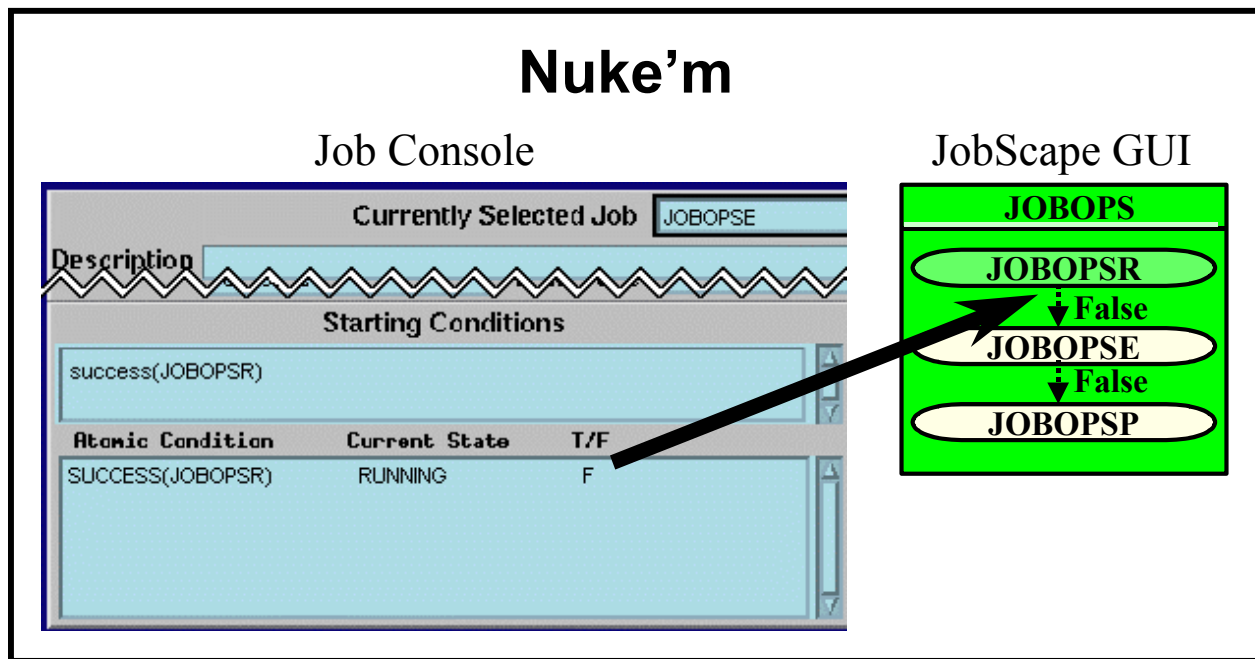

Figure 66. Atomic Conditions and Upstream Dependencies
- Figure 66 shows how atomic conditions relate to job dependencies as displayed using JobScape. (In this case JOBOPSR is an atomic condition for JOBOPSE.).